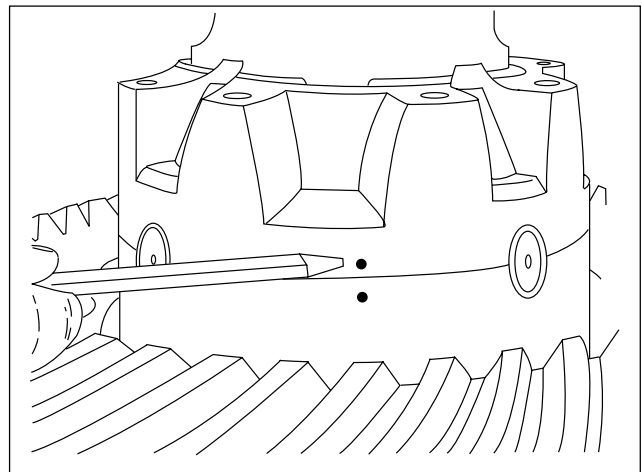

Figure 3
1. Match mark differential case halves with punch or chisel for correct alignment in reassembly. See Figure 3.